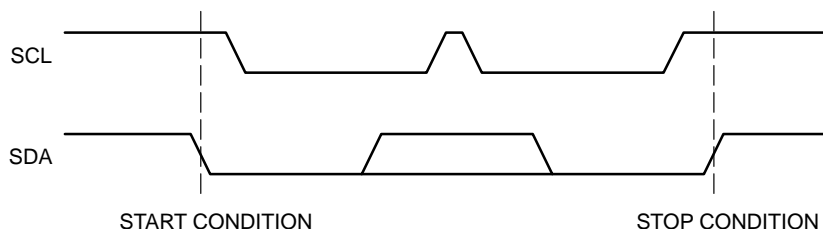

Figure 7. START/STOP Condition
2. During a data transfer, the data line must remain stable whenever the clock line is high. Any changes in the data line while the clock line is high will be interpreted as a START or STOP condition (Figure 7).